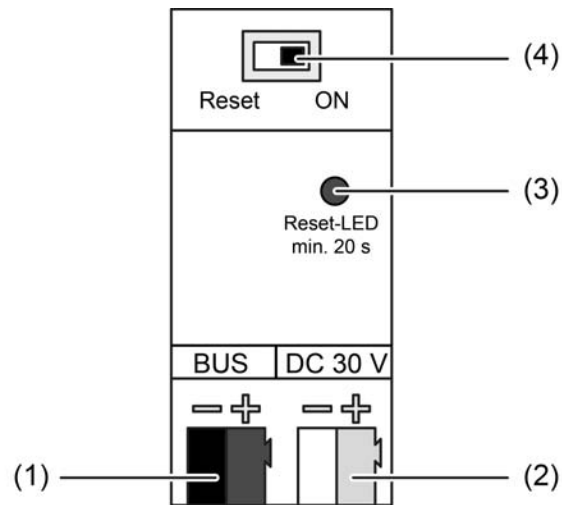

Figure 1: Device components
- Connect power supply to the terminal (2) (Figure 1).
- Connect bus line to terminal (1).
- Remove the guide (8) of the data rail contacts. To do this, insert a small screwdriver laterally between the housing and guide and raise the guide.
- Attach the enclosed insulating cap (9) onto the data rail contacts and lock into place by pressing.